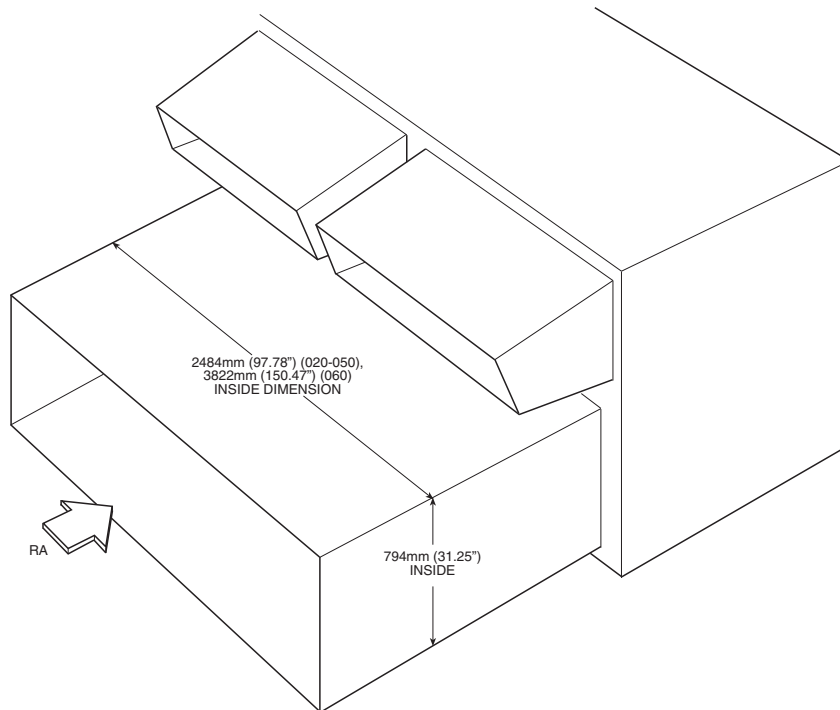

Fig. 38 — Side Return Duct Dimensions
3. Run the return air ductwork up to the openings. One single duct is recommended to connect to the unit over the return air openings. See Fig. 38. The return duct must